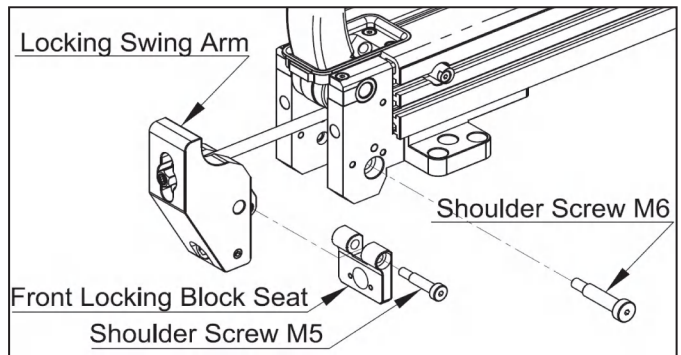

Fig. 9-5
(5) Slide out the Locking Swing Arm by removing two shoulder screws and the Front Locking Block Seat, as depicted in **Fig. 9-5**.